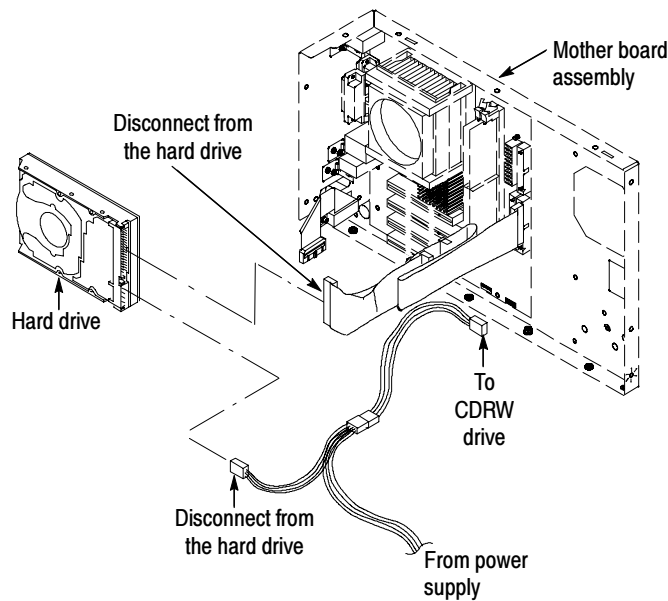

Figure 8: Desktop hard drive removal
4. Disconnect the 2 cables from the Hard Disk Drive assembly. See Figure 8.